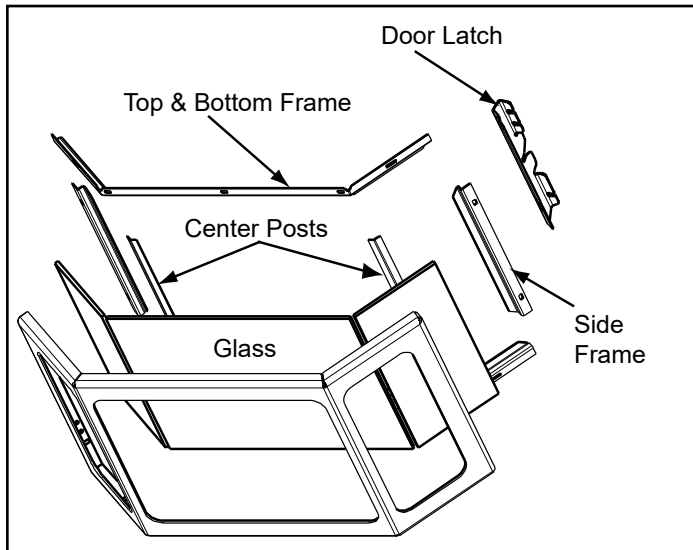

Figure 27.1
- Using a nut driver remove the (5) bottom nuts and remove the bottom glass frame (**Figure 27.1**).